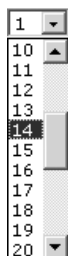

Figure 93. Input Selection Drop Box
1. Click the **Input** drop box. A drop down scroll box appears (see figure 93).